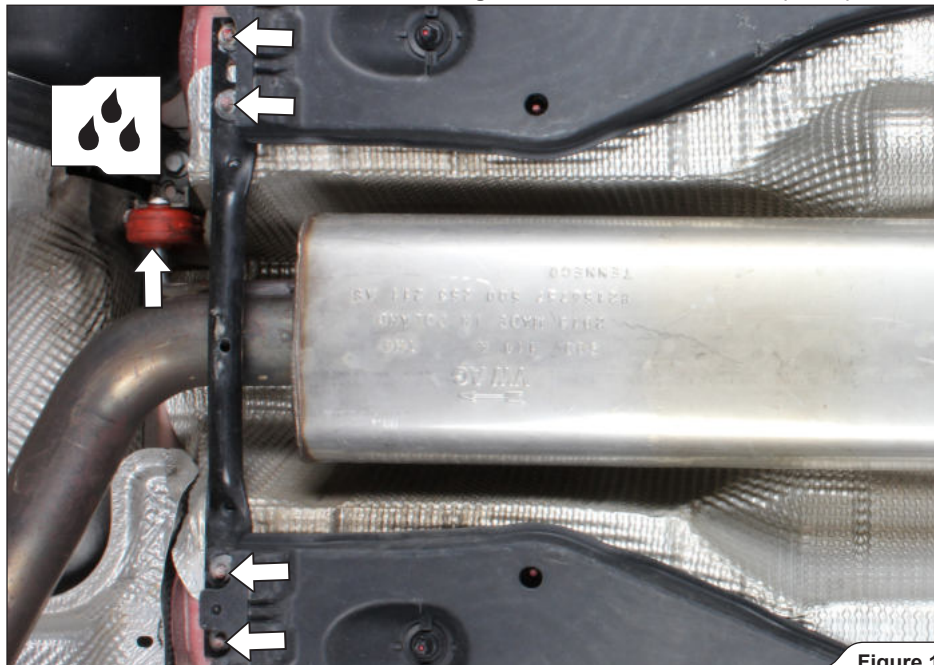

Figure 1
1. Unscrew the rear chassis reinforcement and slide the rubber bracket off the pipe (Figure 1).